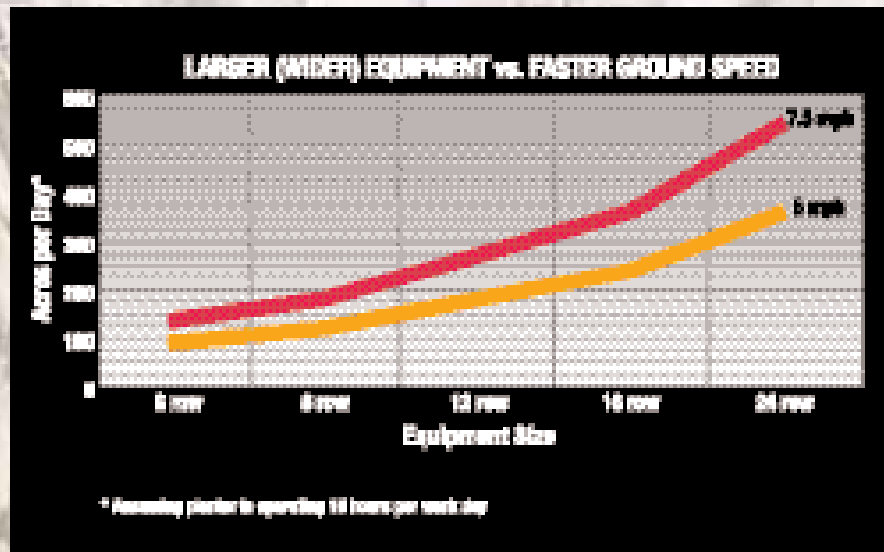
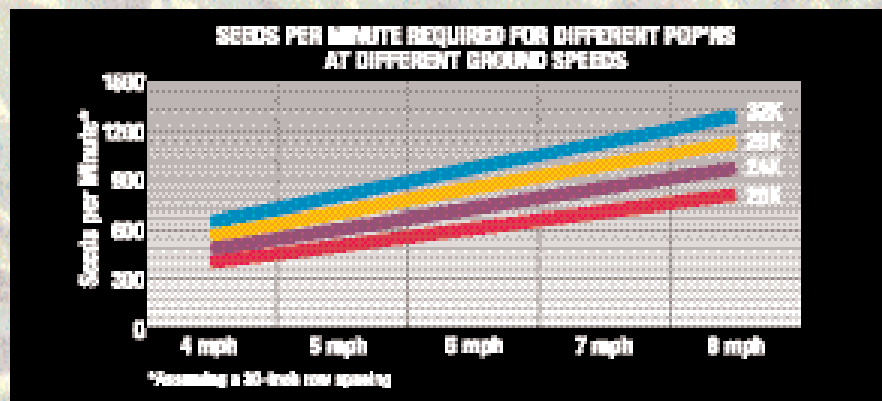

FIGURE 3. You can achieve the acres per day required for timely planting two different ways:
FIGURE 2. The seeds per minute required to be delivered by the meter depends on the ground speed of operation and the targeted planted population.
2. operate at **higher ground speeds** (see Figure 3)
- In-row spacing **performance may degrade at low and/or high ground speeds** depending on meter design. Determine the number of seeds per minute that need to be planted at your farm using Figure 2.
- As planted populations increase, **certain meter designs may encounter ground speed limitations** to keep from exceeding rpm performance limits. Use Figure 3 to determine the meter rpm's required to plant the seeds per minute determined using Figure 2. Check your operator's manual for rpm limitations.
FIGURE 3. The rpm required by the seed meter to deliver the target population at the ground speed of operation depends on the number of cells/fingers in the system selected.